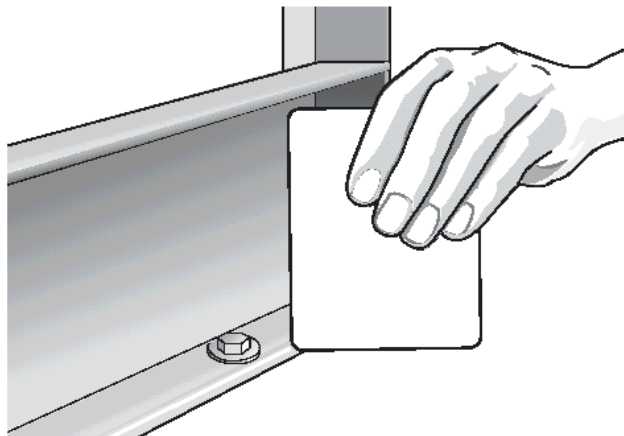
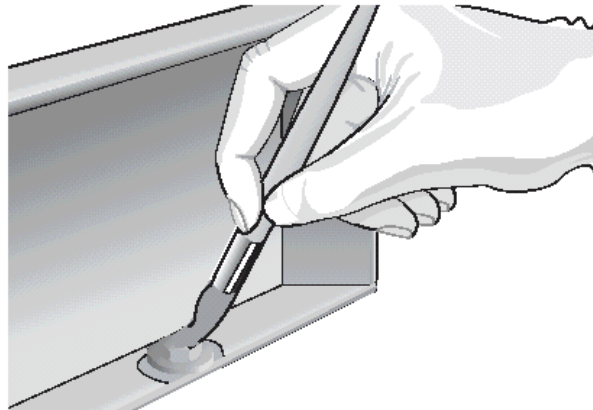

Figure 5.3 – Sealing Rack Frames
Figure 5.4 – Coating Rack Hardware
- 5.7 In facilities where a battery rack is already installed, use a spreader or putty knife to seal the base of the battery rack with Adhesive as shown in Figure 5.3. Using a brush, apply Adhesive to the battery rack anchoring hardware as in Figure 5.4.
6.9 In installations where Coating is installed before the battery system, racks may be implaced only after the Coating has been completely cured. If a leak test is to be performed, it also must be completed satisfactorily prior to rack installation. Do not load the racks with batteries until the Coating has had at least one week to completely cure. Once the battery racks have been installed, obtain an Acran Leak Repair Kit (part number 5LRK0001) and use it to seal the frames (Figure 5.3) and anchors (Figure 5.4).